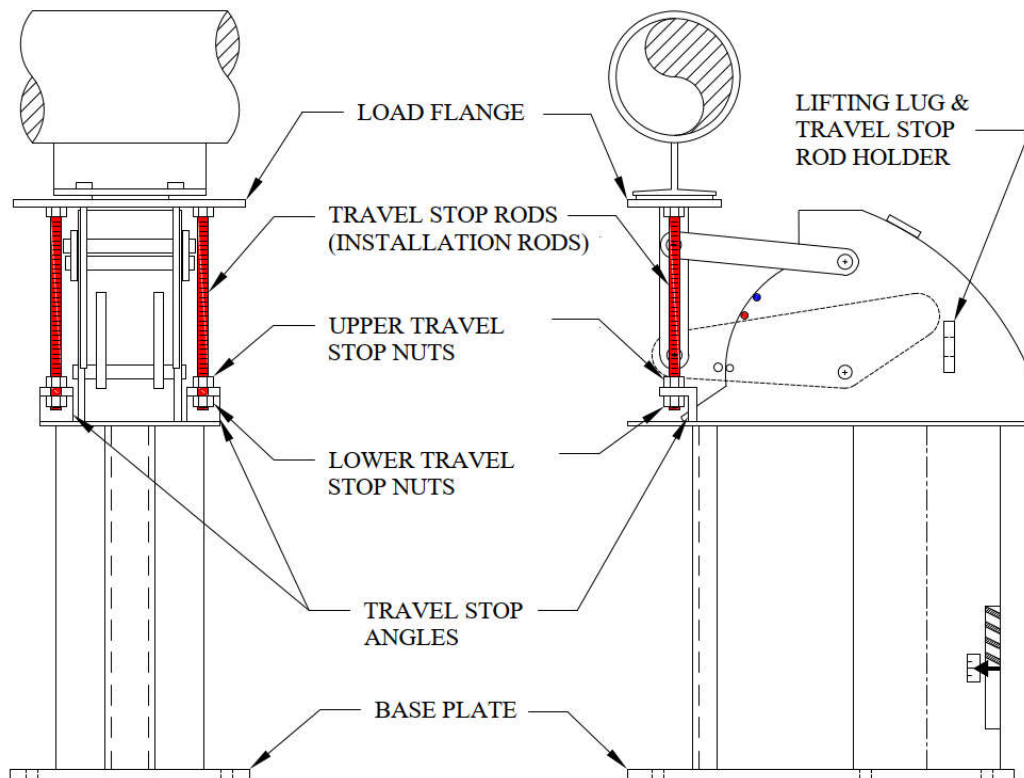
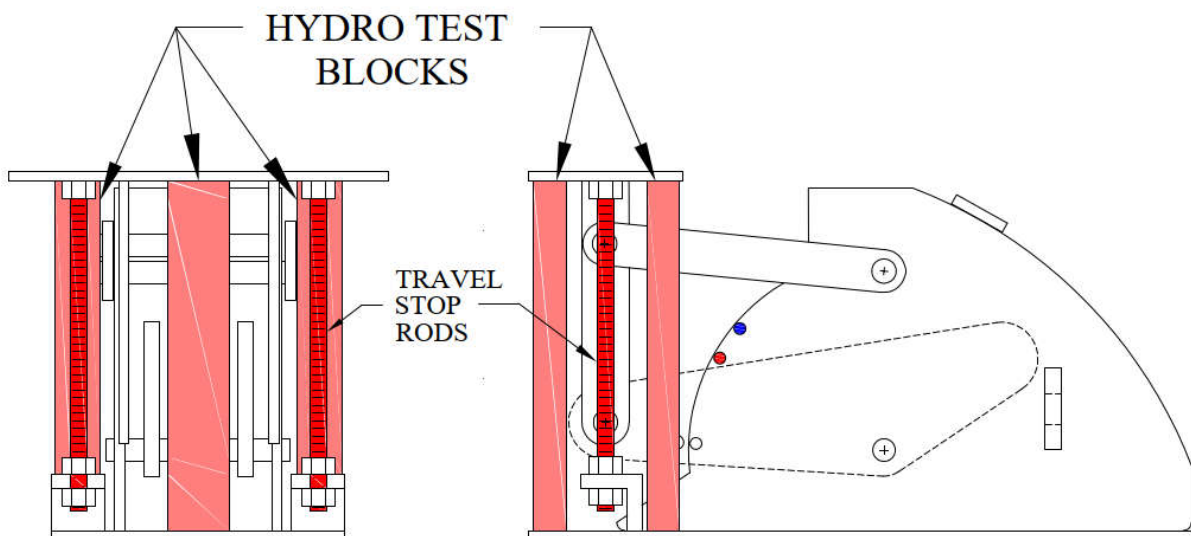

Figure 12A: 100-F (Layout-B) Assembly
Figure 12B: 100-F (Layout-B) Travel Stop Removal
1. Attach the base plate of the constant to the supporting structure by placing the constant in its installation location. If the clearance is tight, temporarily force the load flange down (using the travel stop nuts installed on the all-threaded rod painted red) by loosening the 2 upper travel stop nuts, then tightening the 2 lower travel stop nuts (3/8" max) (figure 12A). Then move the constant into installation location.
1. Attach the base plate of the constant to the supporting structure by placing the constant in its installation location. If the clearance is tight, temporarily force the load flange down (using the travel stop nuts installed on the all-threaded rod painted red) by loosening the 2 upper travel stop nuts, then tightening the 2 lower travel stop nuts (3/8" max) (figure 12A on page 9). If the hydro test blocks are preventing the load flange from moving down, temporarily remove the hydro test blocks by grinding-off the tack welds that holds them in place, and sliding them out (figure 12B). Then move the constant into installation location.
2. If hydro testing will be performed before commissioning the constant, re-insert the hydro test blocks in their original place after grinding the block as necessary to fit, and tack weld (figure 12B).